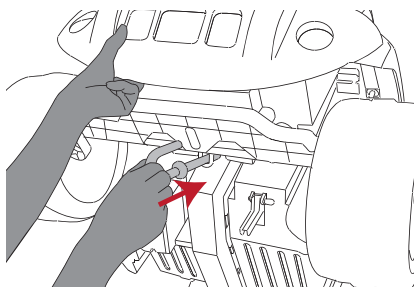

Figure 2
- Lift the front of the vehicle up and slide the straight end of the steering bar through the U shaped hole on the steel axle and also through the hole in the vehicle body. Also insert the curved end of the steering bar into the oval slot in the plastic front axle. Slide the bar all the way until the collar on the steering bar hits the U shape hole on the steel axle. See Figure 2.